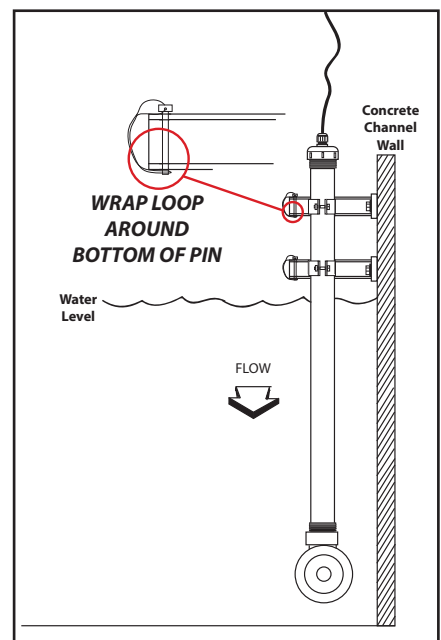

FIG. 17
- L) Reinstall locking pins into wall mount brackets. See FIG. 17